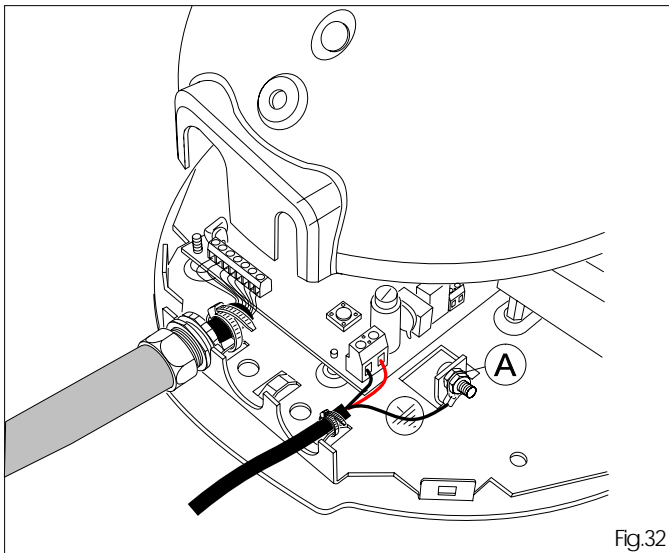

Fig.32
9.3 Position the earth eyelet on the screw, add a washer and tighten with the nut (fig. 32 ref. A).
9.4 If you are using tube sleeves to secure the cables, make a slot as shown in figure 32.